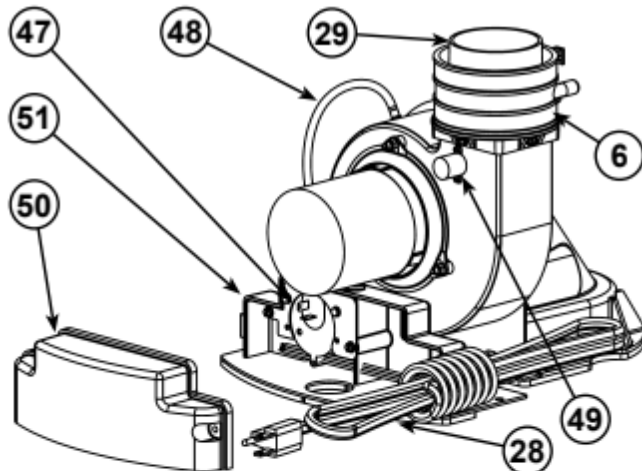

Figure 6.
This device is located on the blower (see Figure 6, item 49) and limits the maximum temperature of the blower. If the blower temperature rises above the temperature setting, the switch opens causing the heater to shut down. The switch will auto reset once the temperature drops sufficiently.
This device, located in the junction box, monitors the air pressure produced by the blower. In the event that the exhaust venting becomes blocked or sufficiently restricted, the switch will shut the heater down (see Figure 6, item 47). If the water heater has not gone into a soft lockout condition, the heater will restart after the blockage is removed (see "Resetting The Heater Control").